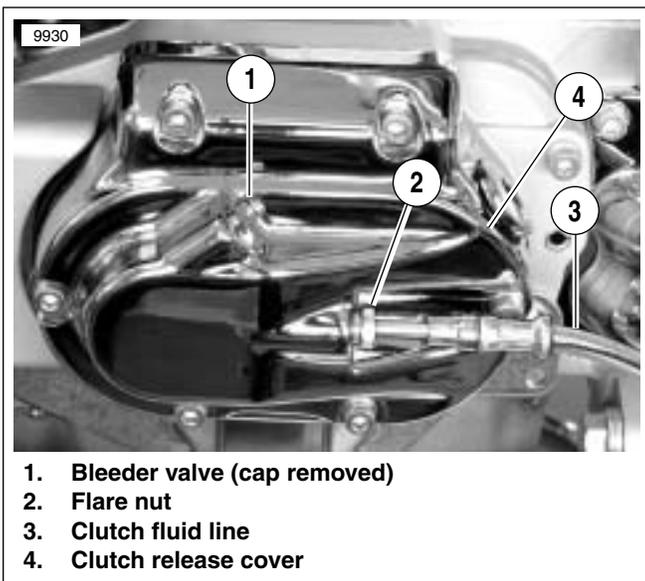

Figure 2-35. Clutch Release Cover (exhaust system removed)
3. See Figure 2-35. Place a suitable container under clutch release cover (4).
4. Loosen flare nut (2) and allow clutch fluid to drain.
6. Drain clutch fluid line (3).